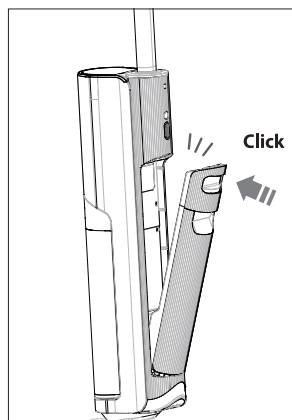

Fig. 7 – Inserting the water tank
- ▶ Insert the fresh water tank into the recess on the back of the appliance at a slight angle and press on the fresh water tank until you hear it click into place and it is seated securely (see Fig. 7).